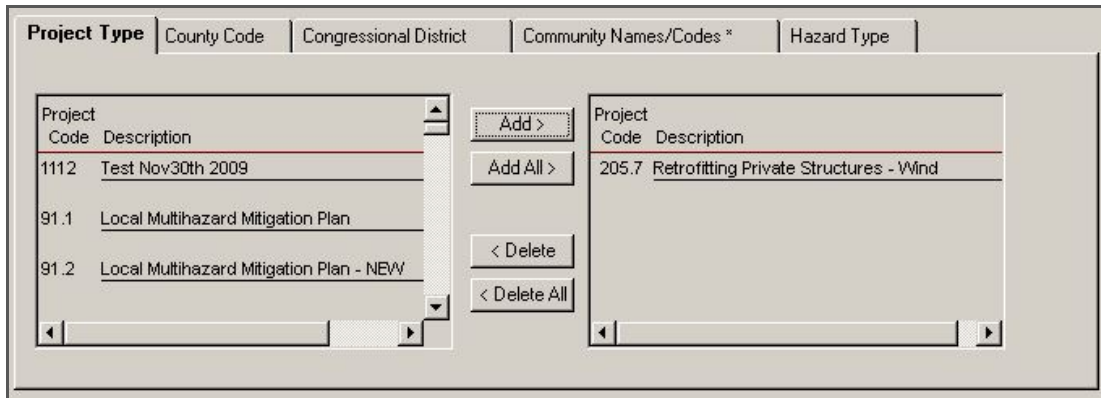

Figure 6-28: Retrofitting Private Structures
- c. When selecting project code 205.7B Retrofitting Private Structures – Wind (P804) as shown below (Figure 6-28), additional system requirements will need to be met: